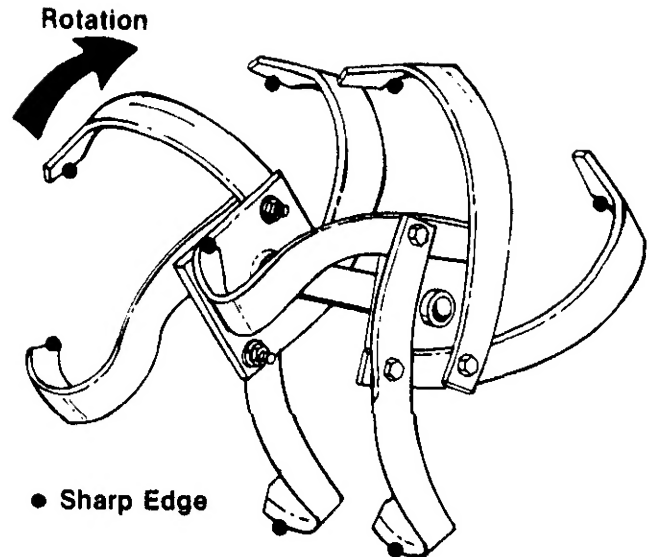

FIGURE 14.
1. Before operating tiller for the first time or if tines have been removed and reassembled for any reason, check to be certain the tines are assembled correctly. **The sharp edge of the tines must enter the soil first as shown in figure 14.** (Figure 14 illustrates the left hand tines, viewed from the left hand side of the tiller. Right hand tines rotate in the same direction as the left hand tines.)